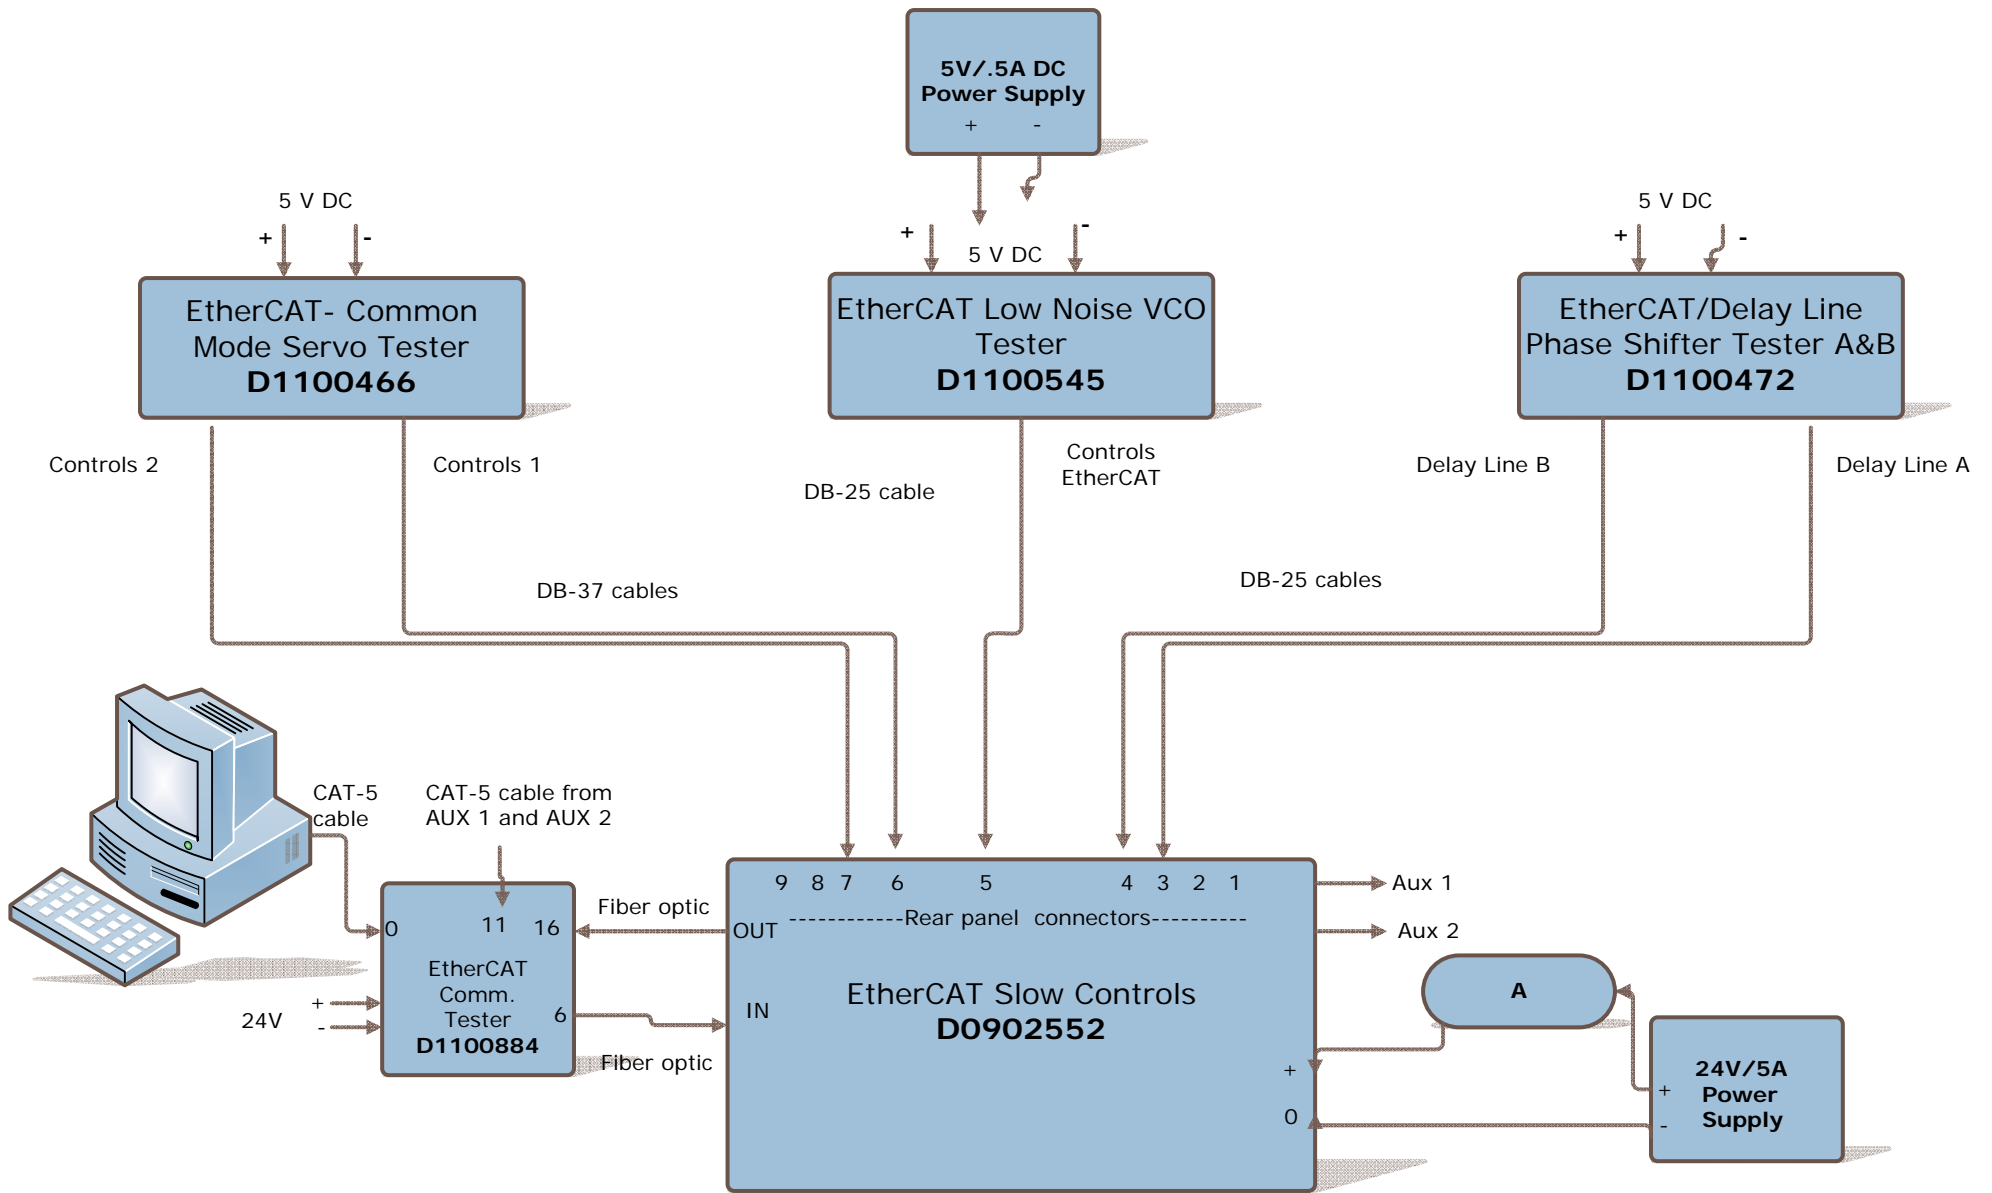

FIG.1 EtherCAT SLOW CONTROLS AND TEST FIXTURES SETUP
This test procedure provides functional and verification tests that check the operational features and all input and output functions of the Ether CAT Slow Controls System. The test set up is presented in Figure 1. The initial inspection and test procedure, the adjustments, and the functional test of the Ether CAT system are outlined in the “Preliminary Test” section and in Table 1 of this document. This test procedure is to be used to test every unit before shipment from the factory.
4.5. Use standard computer cables to connect the test fixtures connectors to the EtherCAT System rear panel connectors, see **Fig.1**.
6.1. To perform a complete functional test, perform each step of the **Table 1**. When configured as shown in Figure 1, test sets will provide the connections necessary to fully test the EtherCAT Slow Controls System through the use of the L.E.D. indicators and switches on test sets and the test equipment listed in section 3.0.